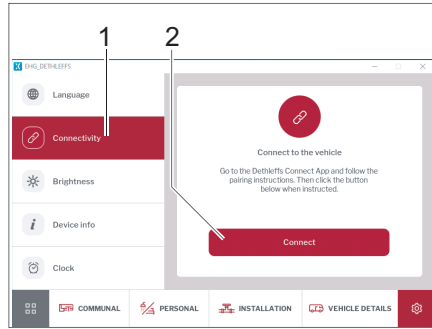

Fig. 277 Connecting via the System Control Display
- Click on the *Connection* (Fig. 277,1) button. A notification will appear to explain how your mobile device can be connected to the vehicle.
- Click on the *Connect* (Fig. 277,1) button. Your vehicle and mobile device are now paired.